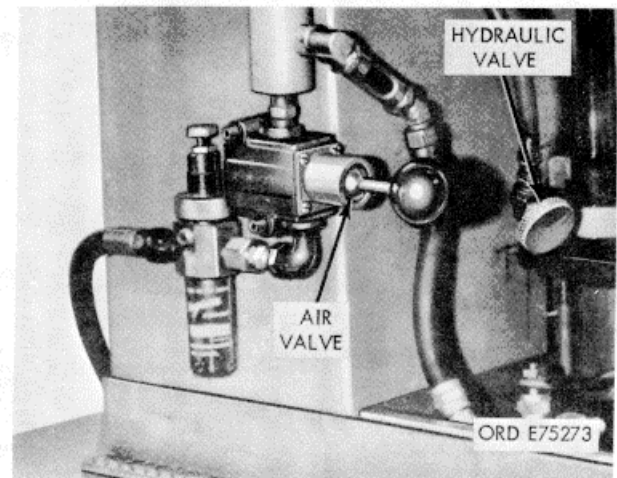
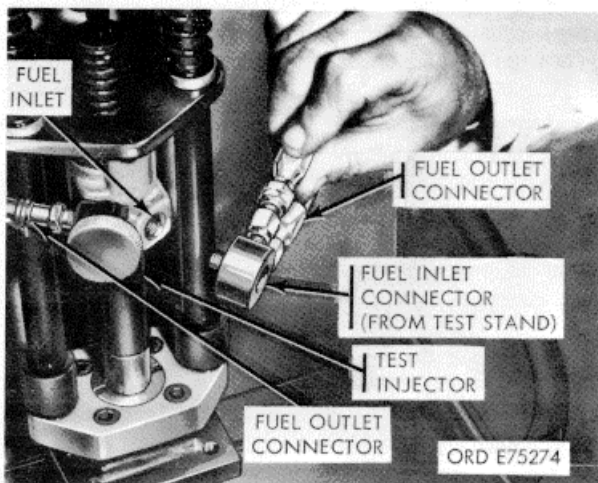
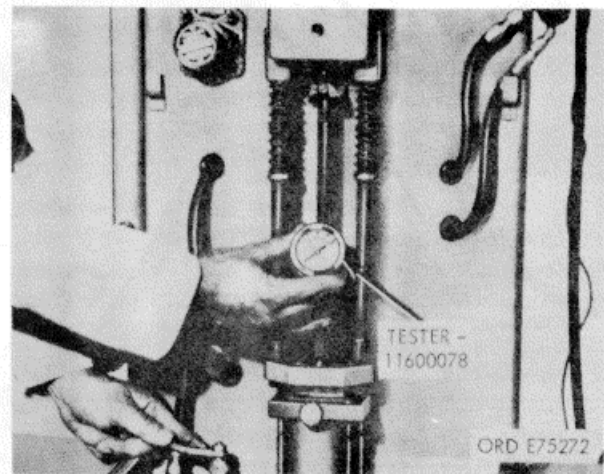

Figure 3-61. Hydraulic and air valves.
Figure 3-64. Fuel inlet installation
Figure 3-67. Load cell tester.
(2) Fill hydraulic fluid reservoir.
(3) Test oil tank on stand must be kept at least ye full of diesel fuel.
(4) Aline timing mark (fig. 3-60) and close hydraulic valve and open the air valve (fig. 3-61). Place load cell tester (1, fig. B-29) in test stand and clamp in place by opening hydraulic valve (fig. 3-61).
(11) Open air valve (fig. 3-61) and as injector goes in clamped position make sure plunk link is properly alined and engaged in link gui
(12) Check air gage pressure at top of]
draulic reservoir as originally established with load test cell. Close hydraulic valve (fig. 3-61) to lock injector in clamped position. Connect inlet and drain connectors (fig. 3-64) to injector.
(8) When air valve is opened, air travels ul in center of tube type hydraulic reservoir and 4 downward pressure against column of hydraulic (fig. 3-67), activating load cell tester.
(9) When both air valve and hydraulic valve3-61) are opened, hydraulic fluid is admitted piston in cylinder and lifts injector into clamped tion. Any leak in hydraulic clamping system directly affect injector loading and must not be per-mitted.
(10) In clamped position and with appropriate link in place, tension on injector is same as it operating engine. Use of improper link will clamp load and upset delivery valves.
(11) Fuel is delivered to injector through connector. Fuel pressure here is controlled a point by connecting line and pressure reg (3-64).
(12) The second connection with clear plastic line is injector outlet connection (fig. 3-64) which c drain fuel from injector back to tank.
(13) During test stand operation, operator a test cycle which diverts fuel to vial graduate so amount of fuel being injected can be measure
(1) Attach test stand inlet pressure line to connection injector adapter (23, fig. B-28) as s in (fig. 3-64).
(2) Hold injector plunger down against its seat in injector cup with injector in vertical position (fig.